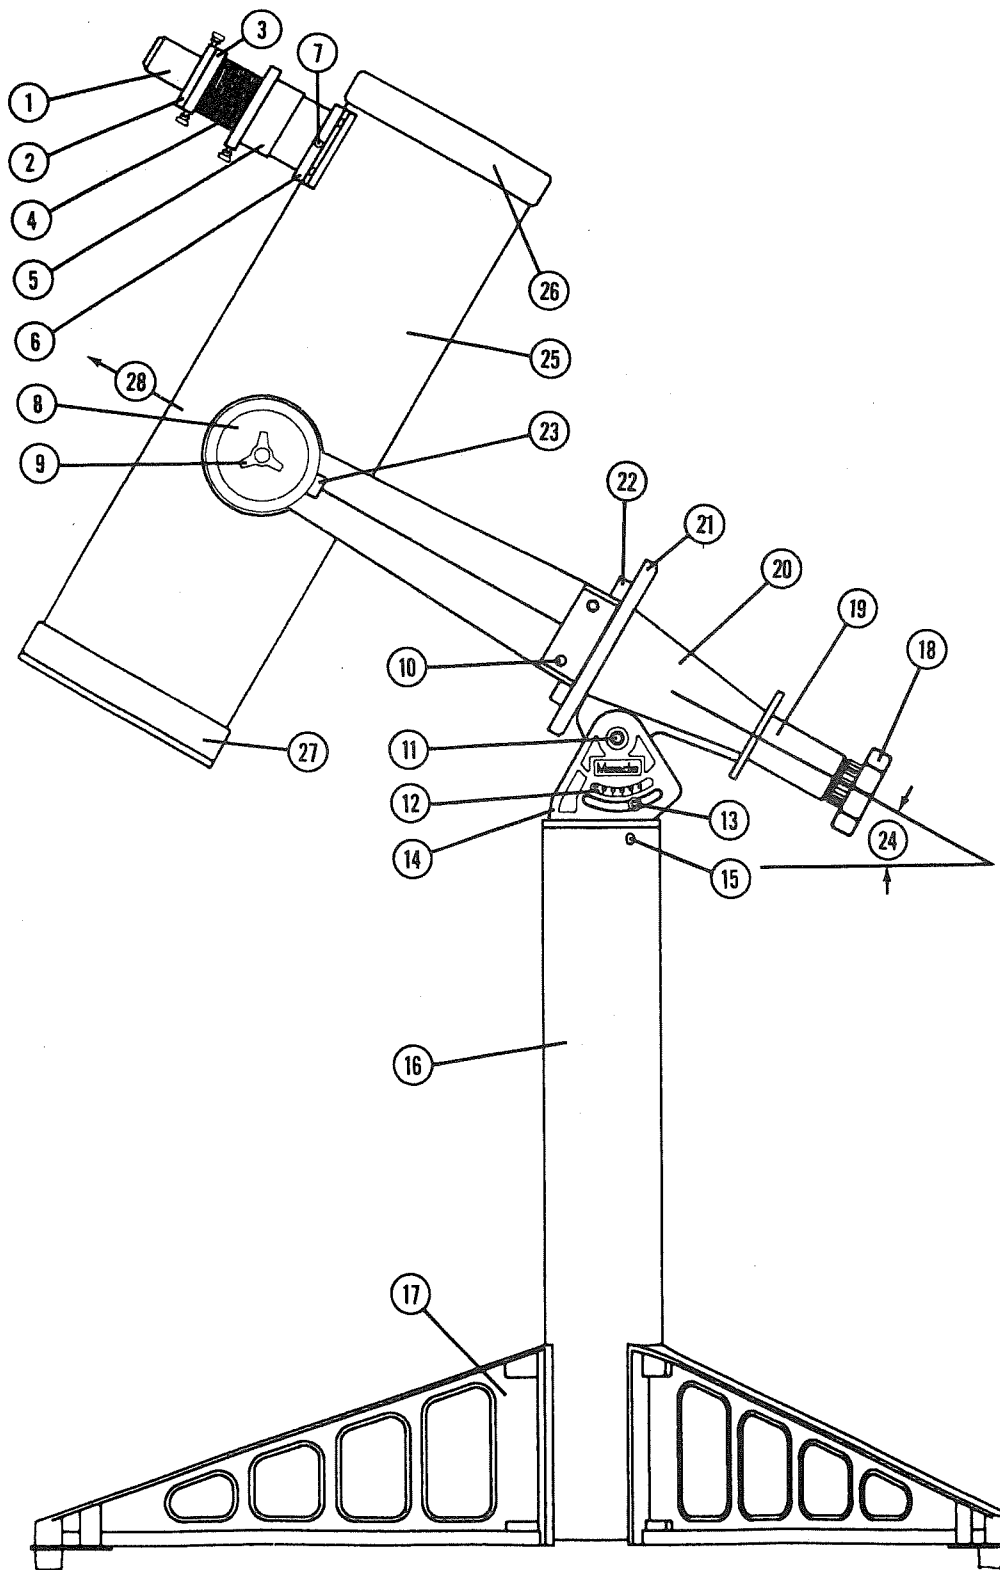

Fig. 1
Key to Fig. 1
Please refer to Fig. 1.
1. Attach the 3 tripod legs (#17, Fig.1) to the pier (#16, Fig. 1) using the 3/8" washers and 3/8" wing nuts provided. Set the assembled pier and tripod legs on the floor.
4. Remove the 4 fork arm attachment bolts (#10, Fig. 1) from the flat sides of the main mount (2 on each side).
6. Pick up the telescope and position the pier cap (#14, Fig. 1) into the top of the pier. Lock the pier cap into place by using the 3 - 1/4-20 button-head cap screws. Tighten the 3 screws to a firm feel.
7. Three pieces of the focuser are packed separately to prevent damage. Slide the focuser assembly into the focuser base (#6, Fig. 1) located on the main optical tube assembly. (See "Helical Focuser", below.)
Loosen the latitude pivot bolt (#11, Fig. 1) slightly, and the latitude locking bolts (#13, Fig. 1) on both sides of the Pier cap (#14, Fig. 1) slightly.
The R.A. lock knob (#18, Fig. 1) is seldom used to "lock" the telescope completely, since you will move the telescope in Right Ascension (R.A.) to manually "track" celestial objects. Use the R.A. lock knob to put a comfortable "drag" on the telescope motion. The telescope should move easily, but stop completely when not being pushed.
The Declination (Dec.) lock knobs (#9, Fig. 1) are also used to provide a comfortable drag on telescope movement. Once an object is located in the telescope's field of view, you may wish to "lock" the Declination, so that it does not move accidentally as you move the telescope in R.A. (for tracking). There are two of these Dec. lock knobs, and either or both may be used.
The helical focuser supplied with the MTS telescopes differs from most telescope focusers in that it has a "quick focus" feature. When changing eyepieces or accessories such as cameras or barlow lenses, it is often necessary for large changes in focus. By pushing or pulling on the focuser threaded tube (#3, Fig. 1) it will "snap" to the new approximate location. Then, by rotating the threaded tube, critical focus is achieved.
When using eyepieces, the focuser slide tube (#5, Fig. 1) should be positioned into the focuser base (#6, Fig. 1) about $3/8$ " and locked into place using the locking thumbscrew (#7, Fig. 1). When doing some forms of astrophotography, the focuser slide tube will need to be moved to its lowest position (see "Astrophotography", below).